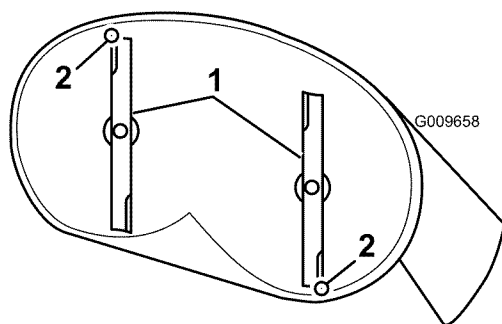
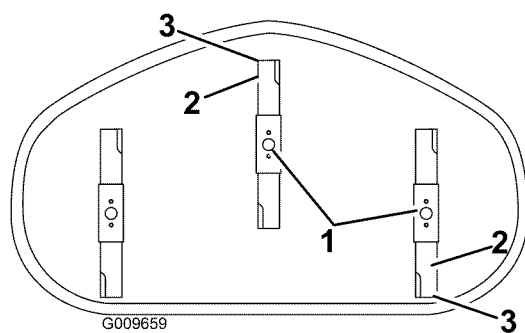

Figure 49
Figure 50
- Carefully rotate the blades so they are facing front to rear (Figure 49 and Figure 50).
5. Measure from the tip of the front blade to the flat surface and the tip of the rear blade to the flat surface (Figure 49 and Figure 50). If the front blade tip is not 1/16-5/16 inch (1.6-7.9 mm) lower than the rear blade tip, adjust the front locknut.
8. After adjustment, check the front-to-rear slope again. Continue adjusting the nut until the front blade tip is 1/16-5/16 inch (1.6-7.9 mm) lower than the rear blade tip (Figure 49 and Figure 50).